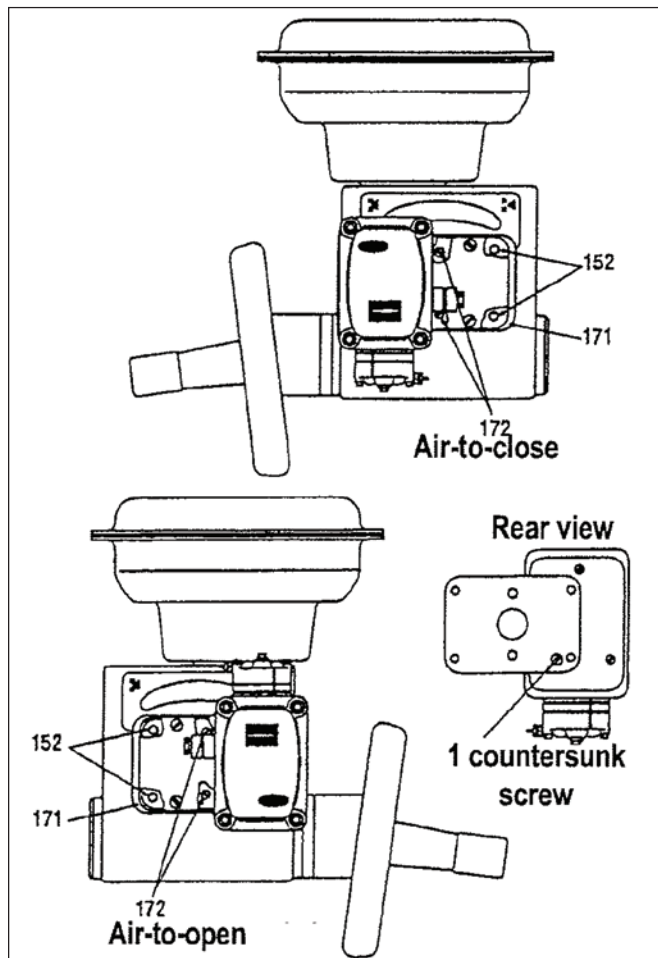

Figure E1 - Mounting position of 8013 Series
With two cap screws (152) and a countersunk screw, assemble the mounting plate (171) on the molded bracket of the positioner and on the positioner (the molded bracket is already fastened to the positioner with two fillister head screws). Then secure this assembly on the valve yoke with two countersunk screws (172). The orientation of the positioner on the valve depends on the actuator action. It is indicated in figure E1.